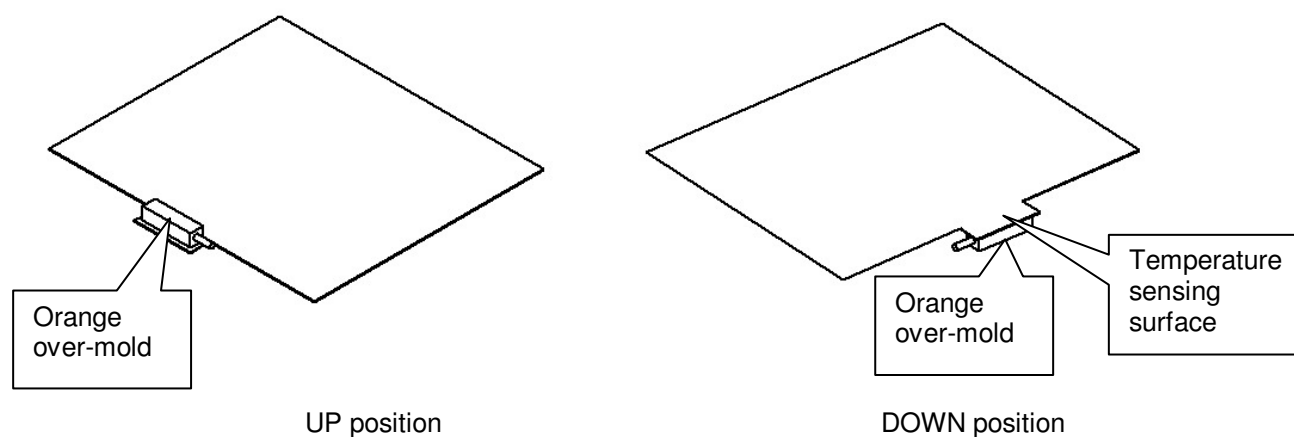

Figure 1 – Sample BHM Orientation
May be installed in both UP position or DOWN position (Figure 1) with no impact on performance
- Ensure the temperature sensing surface under the orange over-mold (Figure 1) is either in direct contact or thermally connected to the battery or the hottest part of the BHM